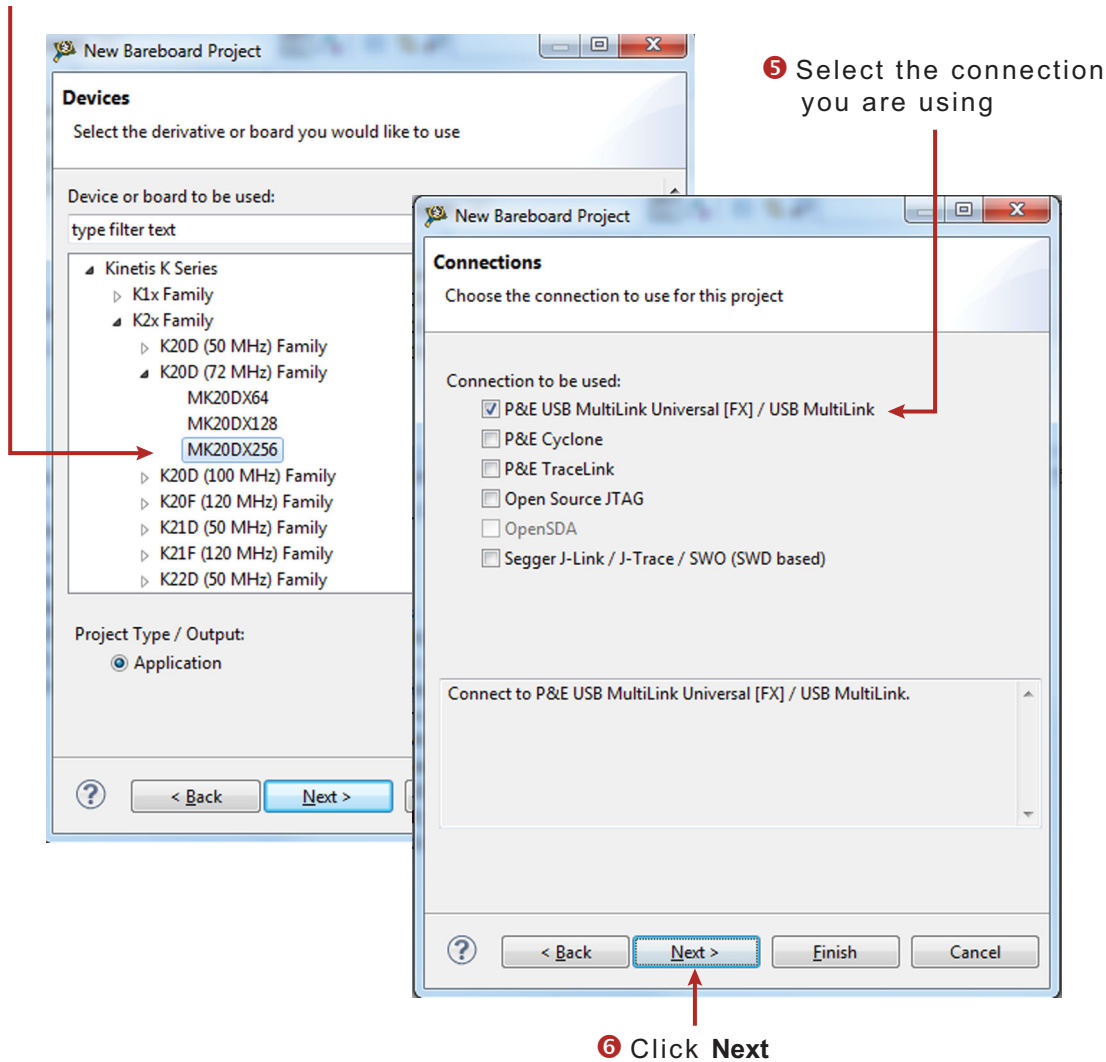

Figure 33. Selecting a device and a connection
2. In the **Devices** dialog box, select the MCU class your project is using in the MCU board (In Figure 33, MK20DX256 has been selected). Then click **Next**.
3. In the **Connections** dialog box, select the type of connection your project uses. (In Figure 33 **P&E USB MultiLink Universal [FX]/USB MultiLink** has been selected). Then click **Next**.